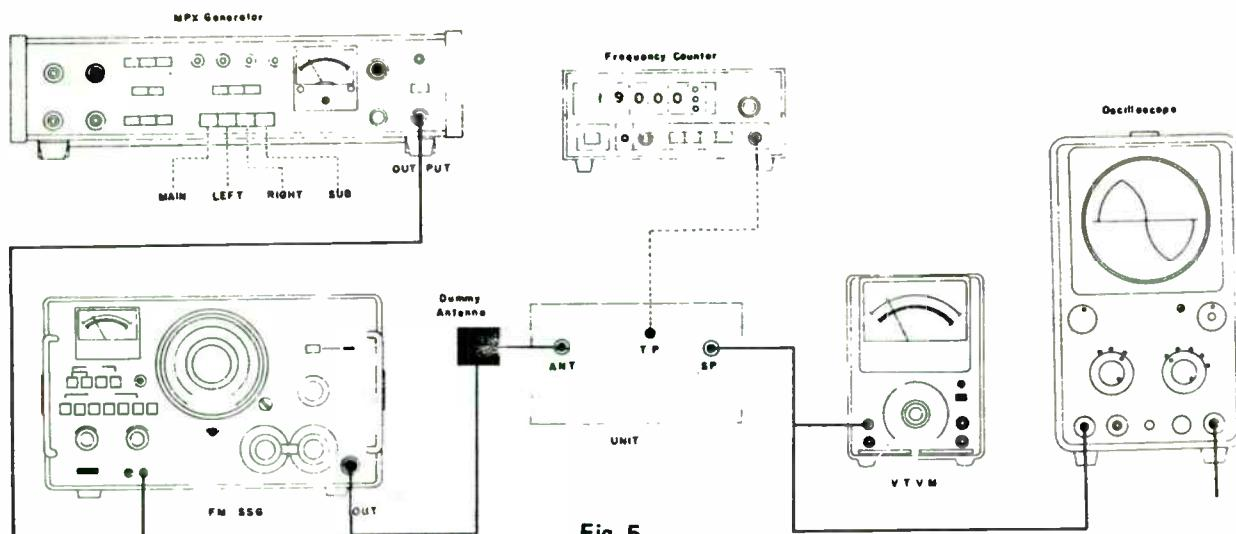

Fig. 5
- * Connect test instruments as shown in Fig. 5.